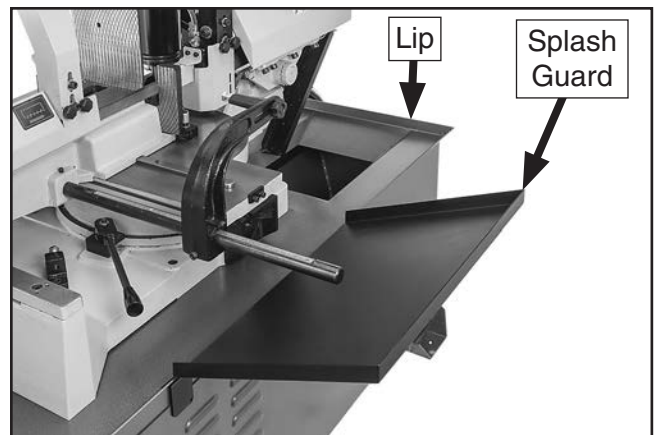

Figure 17. Splash guard installed over lip of base.
- Fit splash guard over lip of base, as shown in **Figure 17**.